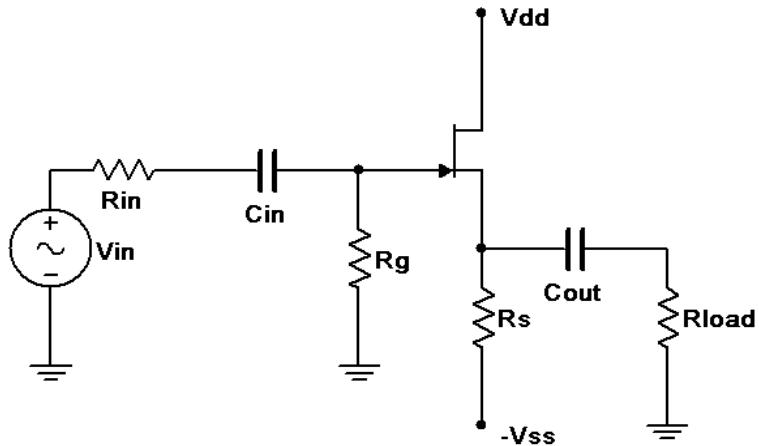

Figure 2
- Consider the circuit of Figure 2 using $V_{dd} = 15$ volts, $V_{ss} = -3$ volts, $R_{in} = 33 \text{ k}\Omega$, $R_g = 330 \text{ k}\Omega$, $R_s = 4.7 \text{ k}\Omega$, $R_{load} = 22 \text{ k}\Omega$, $C_{in} = 10 \mu\text{F}$ and $C_{out} = 470 \mu\text{F}$. Assuming $V_{GS} = -2$ volts and $g_m = 2 \text{ mS}$ (4 mS if using the J112), determine the theoretical gain and input impedance of the circuit and record in Table 2.
- Build the circuit of Figure 2 using $V_{dd} = 15$ volts, $V_{ss} = -3$ volts, $R_{in} = 33 \text{ k}\Omega$, $R_g = 330 \text{ k}\Omega$, $R_s = 4.7 \text{ k}\Omega$, $R_{load} = 22 \text{ k}\Omega$, $C_{in} = 10 \mu\text{F}$ and $C_{out} = 470 \mu\text{F}$. Set V_{in} to a 100 mV peak sine at 1 kHz. Measure the voltages at the gate and load, and record these in Table 2. Capture images of the input and gate voltages, and the gate and load voltages. Note whether or not the load is inverted compared to the gate signal.